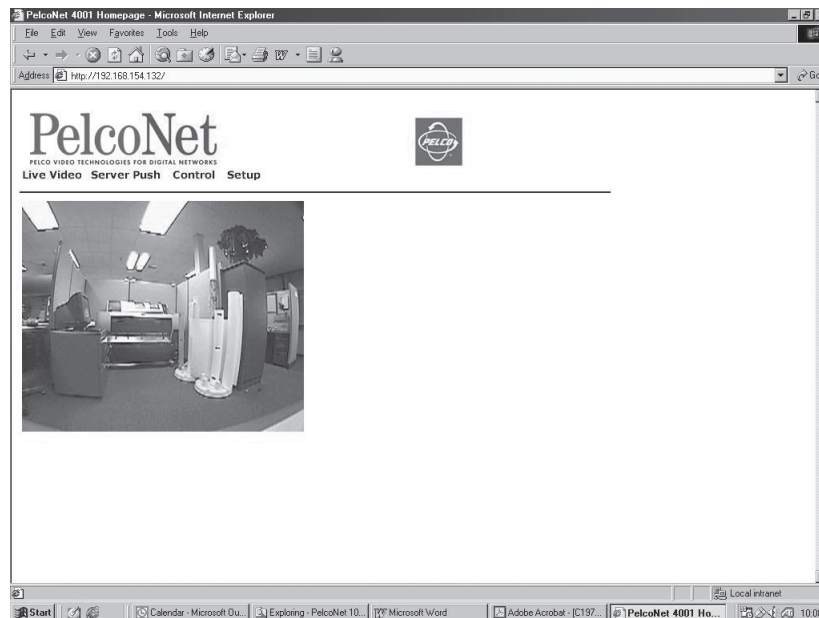

Figure 3. PelcoNet NET4001A Home Page
- To activate the Live Video feature, click **Live Video** above the video window on the PelcoNet NET4001A transmission system home page (refer to Figure 3). The unit transmits using MPEG-2 or MPEG-4 format for display in the browser.